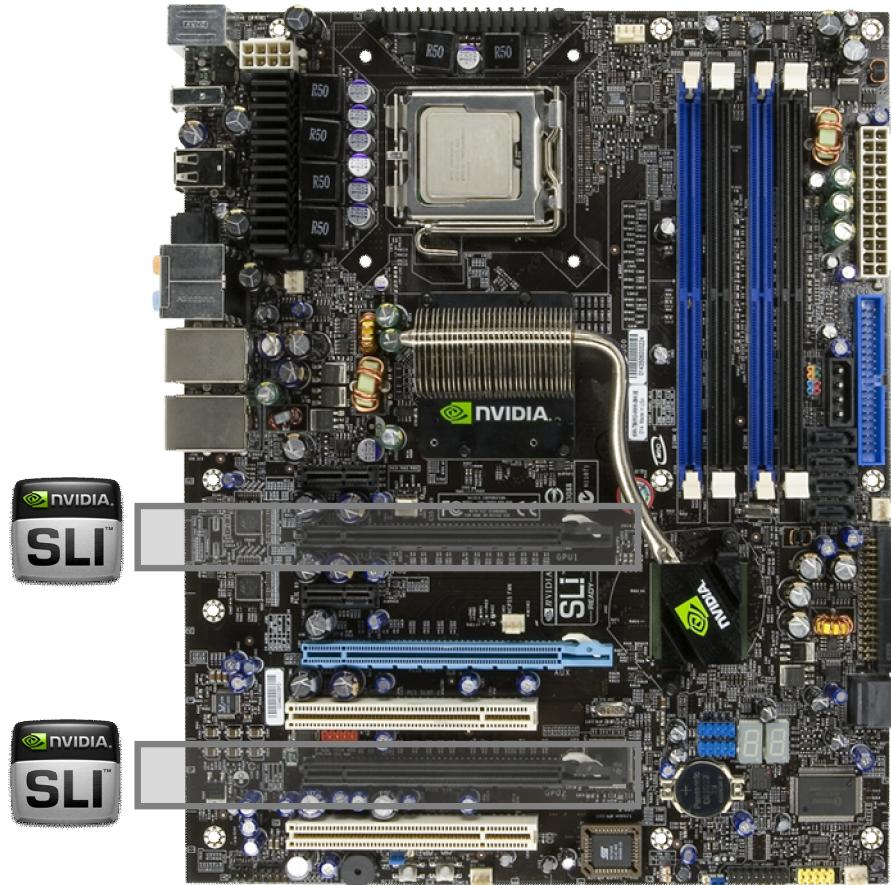

Figure 2. PCI Express Slots for an SLI System
**Note:** For the EVGA nForce 780i/680i SLI motherboard, it's important to note that there are three PCI Express slots. To setup an SLI configuration, you must use the slots labeled **PCIE X16\_1** and **PCIE X16\_2**. The PCI express slots can be seen in Figure 2. **PCIE X16\_1** and **PCIE X16\_2** the black slots. The third slot (**PCIE X16\_3**), which is blue, can be used for another NVIDIA-based graphics card for physics acceleration.